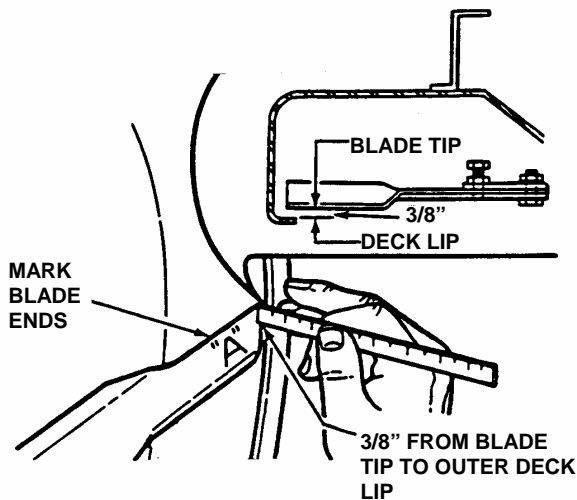

FIGURE 4.6
8. Measure the distance between deck lip and blade tip. NOTE: On 33" decks, the measurement between the blade tip and deck lip should be  $3/8$ ". See Figure 4.6.